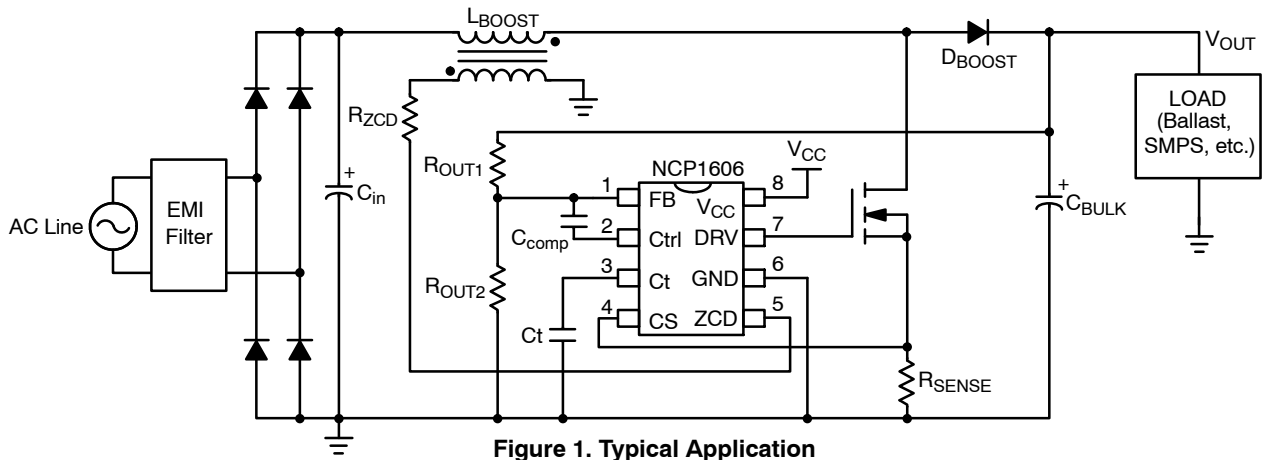

Figure 1. Typical Application
| 4 | Current Sense (CS) | This pin limits the pulse by pulse current through the switch MOSFET when connected as show in Figure 1. When the voltage exceeds 1.7 V (A version) or 0.5 V (B version), the drive turns off. The maximum switch current can be adjusted by changing the sense resistor. |